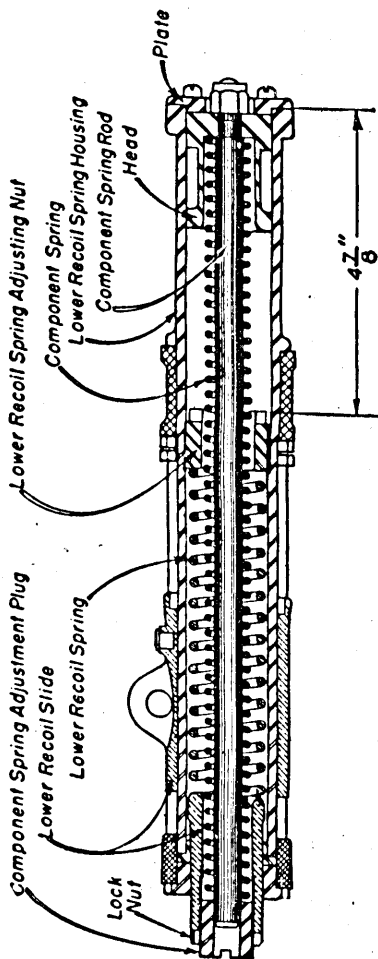

FIGURE 60.—Lower recoil mechanism.
(3) *Lower recoil spring.*—To make this adjustment remove the plate and head at the rear of the housing and withdraw the component spring and component spring rod. Adjustment of the recoil spring is made by means of a nut inside the housing. Screw this nut in or out until its rear face is $4\frac{7}{8}$ inches from rear end of the housing. Care must be taken to see that the measurement is made from the rear face of the nut and not from the bottom of the wrench slot in the nut. (See fig 60.) This is very important, for if the distance from the rear face of the nut to the rear of the housing is less than $4\frac{7}{8}$ inches, metal to metal contact may occur on recoil at high elevations. After completing the adjustment, reassemble the component spring and rod and the head and plate. Occasionally the adjusting nut should be unscrewed from the housing and the spring and interior of the housing cleaned. The spring should then be covered with a light grease to prevent corrosion.